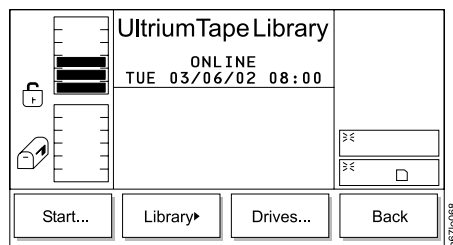

Figure 289. Service Menu
2. Press the button below the **Service** softkey. The Service Menu displays (see Figure 289).